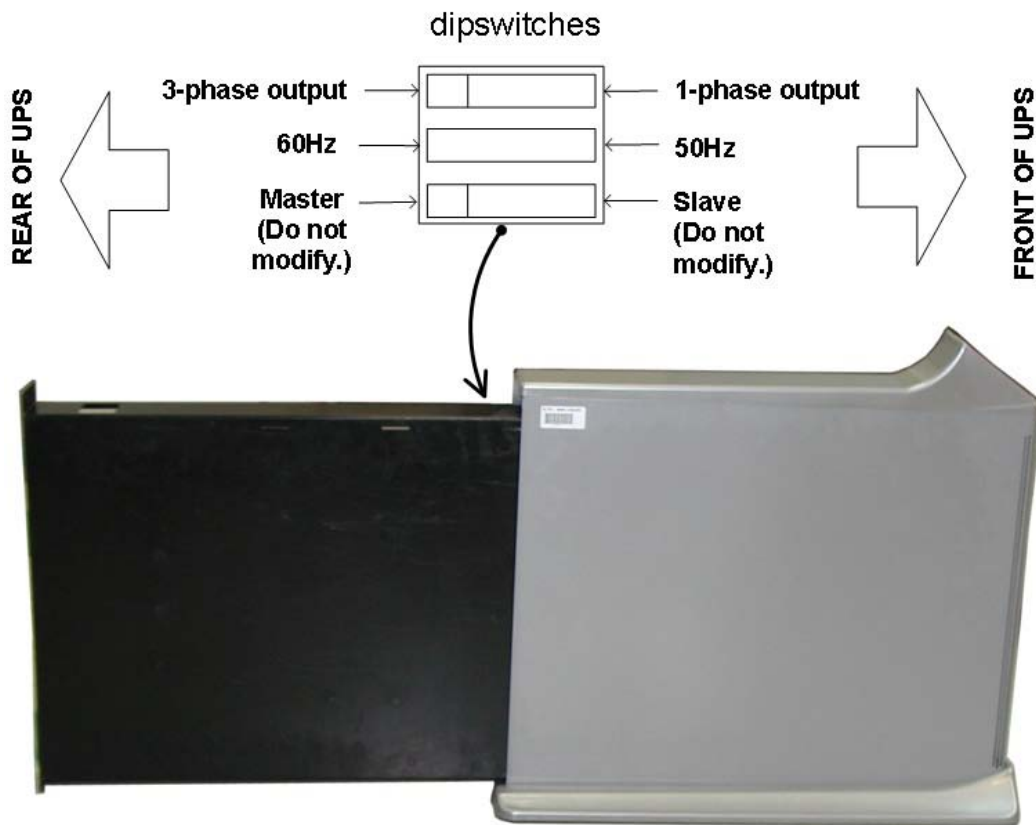

Figure 16: Location of the dip switches
22. On the top front of the UPS body there is a set of three small dipswitches, as shown in the diagram. When looking at the dipswitches from the front of the UPS, the rightmost dipswitch controls the output line configuration. For three-phase output, the rightmost dipswitch should be switched towards the back of the UPS. Refer to Figure 16: Location of the dip switches on page 80.